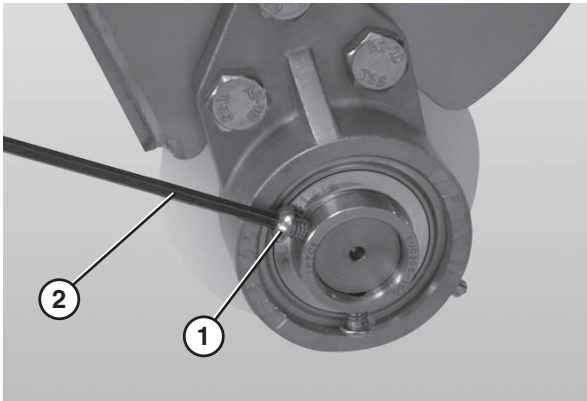

Figure 70
5. Tighten the 3 hole flange with bearing fasteners (**Figure 70, item 1**) using a hex wrench (**Figure 70, item 2**) to 6 N•m (54 in•lbs). Check after 24 hours of conveyor use.